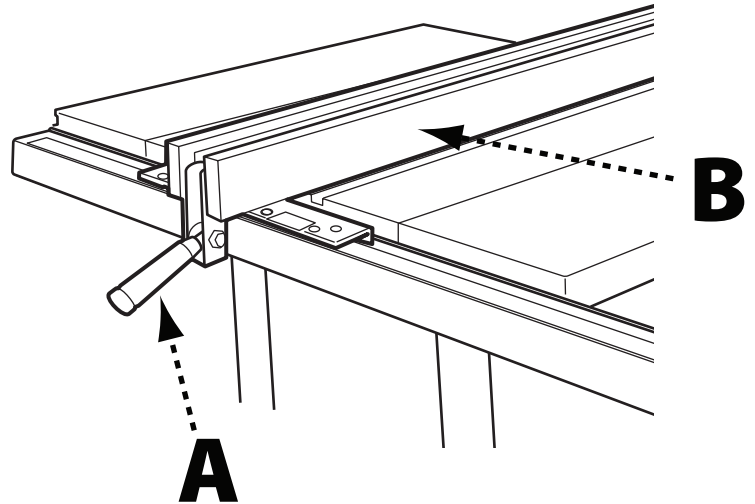

FIGURE 16
When the fence is in place against the guide tube and the fence clamping lever (A) (Figure 16) is in the down position, the fence assembly (B) should not move. If the fence does move or if the lever must be forced down into the locked position, the tension on the fence clamping lever must be adjusted. Do the following: